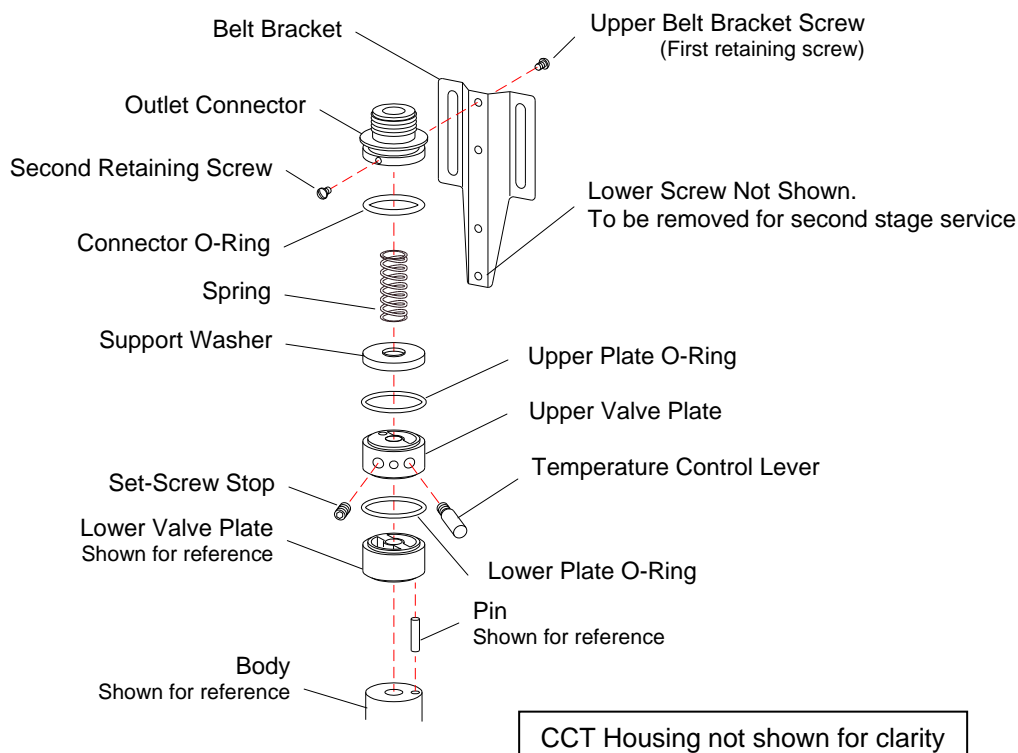

Figure 4
5.2 First Stage Service, Refer To Figure 4
5.2.6 Remove the o-ring from lower valve plate. NOTE: If the lower plate and pin come loose, refer to Figure 4 for reassembly.